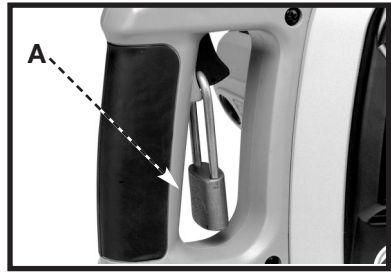

Fig. 4
**IMPORTANT:** When the machine is not in use, the switch should be locked in the “OFF” position to prevent unauthorized use, using a padlock (A) Fig. 4 with a 3/16" diameter shackle.